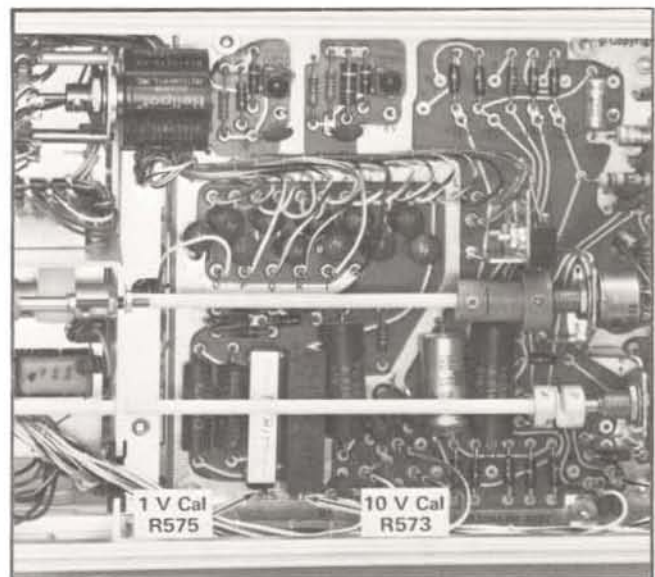

Fig. 5-27. Comparison Voltage adjustment locations on the Output board.
i. ADJUST—10 V Cal control R573 (see Fig. 5-27) to obtain a null indication on the Precision DC Voltmeter. Simultaneously set the Type 7A13 and Precision DC Voltmeter Polarity switches to +. Repeat steps 27e through 27i. If necessary,
28. Check/Adjust 1-Volt Calibration **①**
g. ADJUST— 1 V Cal control R575 (see Fig. 5-27) to obtain a null indication on the Precision DC Voltmeter. Simultaneously set the Type 7A13 and Precision DC Voltmeter Polarity switches to $-$. Repeat steps 28d through 28g. If necessary readjust R575 to obtain a compromise setting between the $+$ and $-$ Polarity null indications.